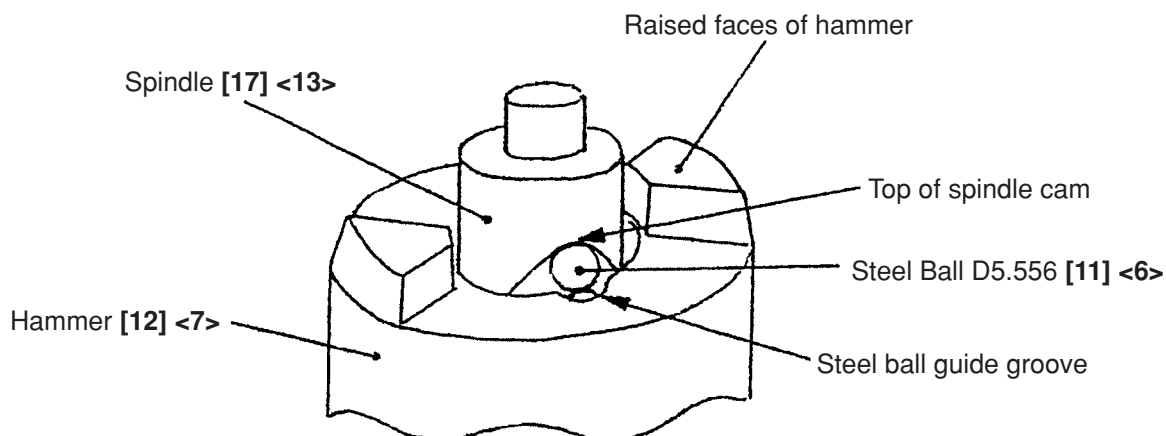

Fig. 3
(3) Mounting the mechanical parts
- (a) Mount Washer (S) [15] <11> onto the Spindle [17] <13> and mount the Hammer [12] <7> containing the twenty-eight Steel Balls D3.175 [9] <8>, Washer (J) [13] <9> and the Hammer Spring [14] <10> to the Spindle [17] <13>.
- (b) Align the top of the cam groove on the Spindle [17] <13> with the steel ball guide groove on the Hammer [12] <7> as illustrated in Fig. 3. Press down either of the raised faces of the Hammer [12] <7> with a hand press to compress the Hammer Spring [14] <10> until the end surface of the Hammer [12] <7> contacts the Spindle [17] <13>.
- (d) Mount the hammer assembly onto the J297 base for washer (S). With a hand press, push down the top of the Spindle [17] <13> to compress the Hammer Spring [14] <10>. On this condition, mount the Stopper [16] <12> onto the spindle shaft and then release the hand press.
(4) Mounting the hammer assembly to the housing